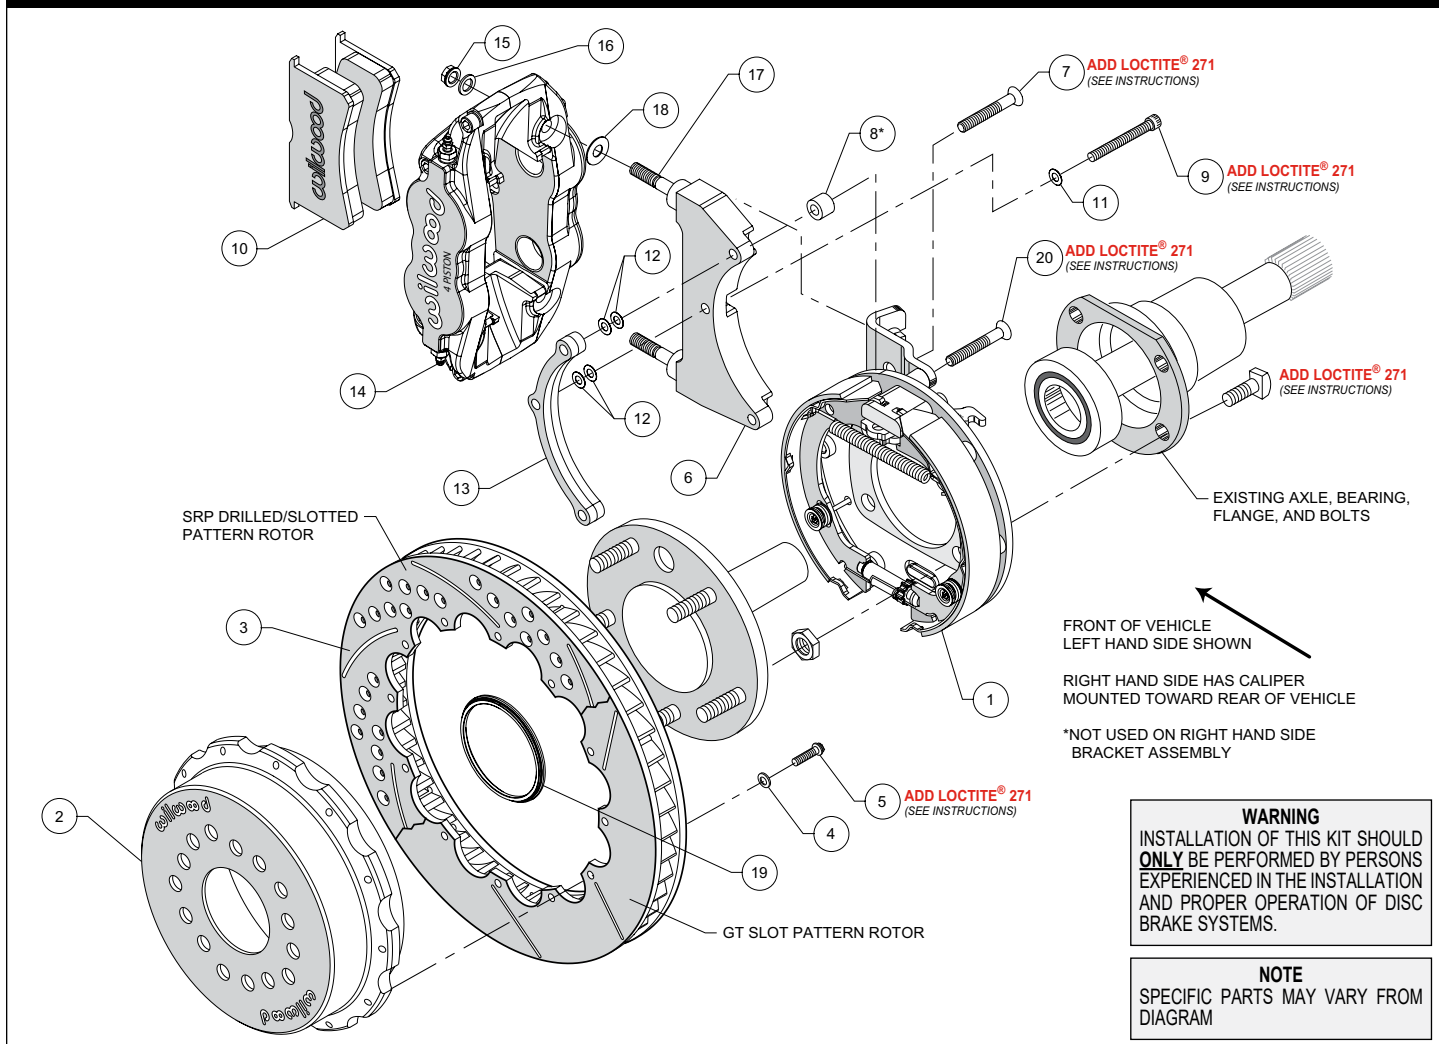
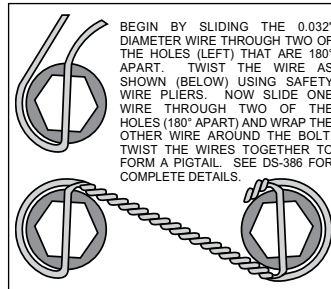

Figure 1. Typical Installation Configuration
Figure 4
Assembly Instructions (numbers in parenthesis refer to the parts list and Figure 1 on the preceding pages): **CAUTION:** All mounting bolts must fully engage threaded holes.
- Orient the bracket assembly (1), as shown in Figure 1, and mount to the axle housing flange using the Original Equipment Manufacturer (OEM) bolts and nuts, Figure 1. Ensure that the bracket assembly backing plate fits flush against the axle housing flange. Apply red *Loctite*® 271 to the OEM bolt threads and torque to OEM specifications.
- **NOTE:** Please reference the caution statement at the beginning of the assembly instructions. The caliper mounting bracket assembly (6) should initially be installed with clean, dry threads on the mounting bolts. **NOTE:** The caliper bracket must tighten squarely against the back side of the bracket kit assembly (1). The ends of the bolts should not exceed inside face of insert. Later, after the caliper alignment has been checked, the mount bolts will be secured using red *Loctite*® 271.
Left Hand Side - Remove and discard temporary rubber spacer from bolt (7). Orient the left hand bracket (6) and 3-hole spacer (13) as shown in Figure 1 and Photo 1, and install using bolts (9) and washers (11) in the middle and lower hole locations, Figure 1. Use bolt (7) in the upper hole with spacer (8) placed between the bracket (6) and the cable stop bracket, Photo 1. Initially place two .015" shim washers (12) on each of the three bolts between the bracket and 3-hole spacer, Figure 1. Temporarily tighten the mounting bolts.
- Orient the rotor (3) and the hat (2) as shown in Figure 1 and Photo 3. Attach rotor to hat using bolts (5) and washers (4). Apply red *Loctite*® 271 to the bolt threads and torque to 155 **in-lb** using a criss-cross pattern. For an added measure of security, the bolts may be safety wired using standard 0.032 inch diameter stainless steel safety wire as shown in Figure 4. Please refer to Wilwood's data sheet DS-386 (available at www.wilwood.com/Pdf/DataSheets/ds386.pdf) for complete safety wire installation instructions.
- Slide the rotor registration adapter (19) onto the axle register on the axle flange with the smaller O.D. facing toward the rotor/hat (2/3), Photo 4. Align the correct hole pattern in the hat with the stud pattern on the axle flange and slide into place, Figure 1 and Photo 5. **NOTE:** The rotor/hat must fit flush against the axle flange or excessive rotor run out may result. Install three lug nuts (finger tight) to keep the rotor/hat assembly in place while continuing with the installation. **NOTE:** Some OEM and after market axles come with stud sizes larger than 0.50" diameter. Verify stud size and have a qualified machine shop drill the bolt circle of the hat/rotor to the correct stud size, if necessary.
- Initially place one .035" thick shim (18) on each stud (17) as shown in Figure 1 and Photo 6. Mount the caliper (14) onto the bracket (6) using lock nuts (15) and washers (16), Figure 1. Temporarily tighten the lock nuts and view the rotor through the top opening of the caliper. The rotor should be centered in the caliper, Photo 7. If not, adjust by adding or subtracting shims (12) between the bracket (6) and the 3-hole spacer (13). Always use the same amount of shims on each of the three mounting bolts. Once the caliper alignment is correct, remove the bracket mounting bolts (7 and 9) one at a time, apply red *Loctite*® 271 to the threads, and torque to 180 **in-lb**. Also, remove cable stop bracket bolts (20), apply red *Loctite*® 271 to threads and torque to 180 **in-lb**.